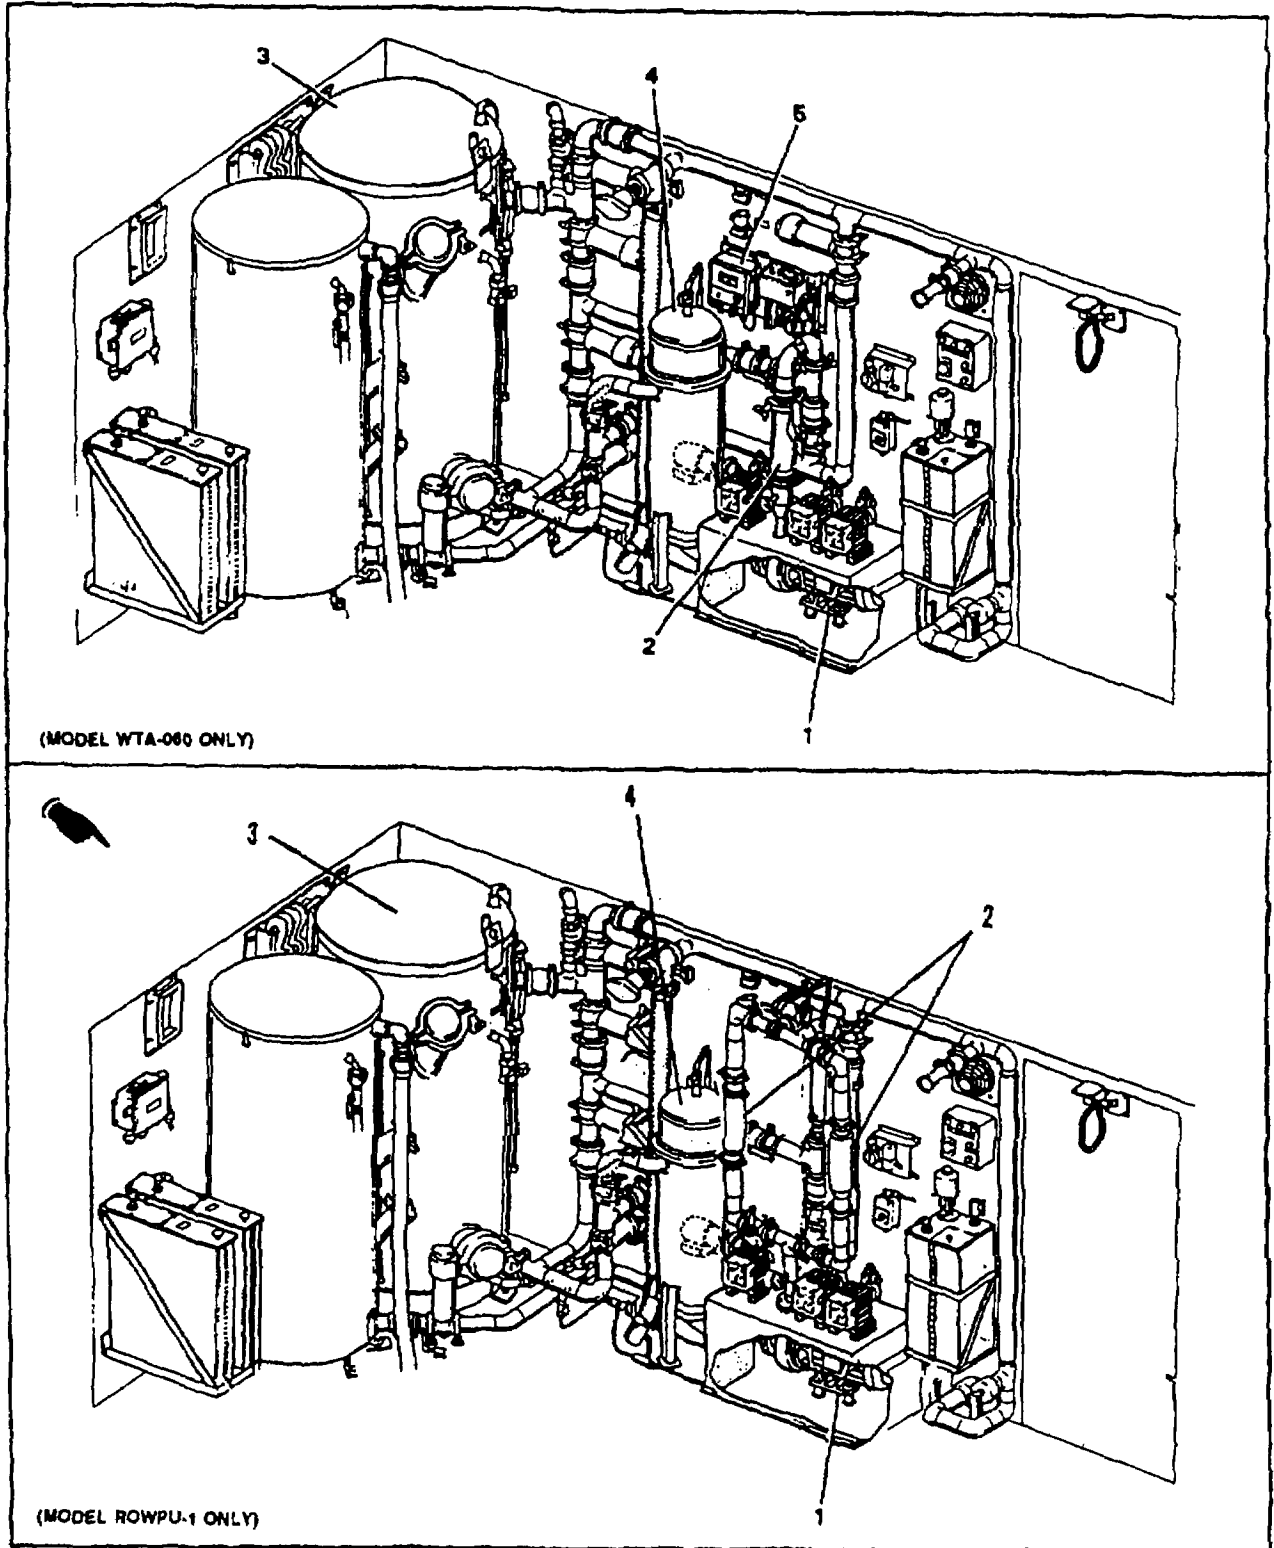

Figure 1-9. Operation of the Water Purification System
- e. Raw Water Discharge Hose (7). On all models, four 50 ft (15 m) lengths of 2-1/2 in. (6.4 cm) canvas hoses, which are used to carry raw water to the cyclone separator(s), are supplied with the ROWPU. Model WTA-060 is supplied with two 10 ft. (3 m) lengths of 2 in. (5.1 cm) rubber hoses, and Model ROWPU-1 is supplied with one 10 ft (3 m) length of 2 in. (5.1 cm) rubber hose. These hoses are called raw water to cyclone separator(s) hoses and are used to carry water from the cyclone separator(s) to the Water Purification System. The connectors are cam and groove type (quick disconnect). On Model WTA-060, you lose 9 gallons (34.1 l) of water through drain hoses on the cyclone separators. On Model ROWPU-1, you lose 5 gallons (19 l) of water through the drain hose on the cyclone separator.
- a. Filtration (Figure 1-9). The raw water is first treated by filtration. The filters reduce the turbidity of the raw water by removing suspended particles of fine clay, dirt, and organic matter. Turbidity not only makes water unfit to drink, but it may also foul (clog) the RO elements. Usually the water leaving the cartridge filter will have a turbidity of 0.5 to 1.5 NTU. This turbidity value will cause only slow fouling which can be removed by routine RO element cleaning. Fouling reduces the amount of water which can be produced by the ROWPU.